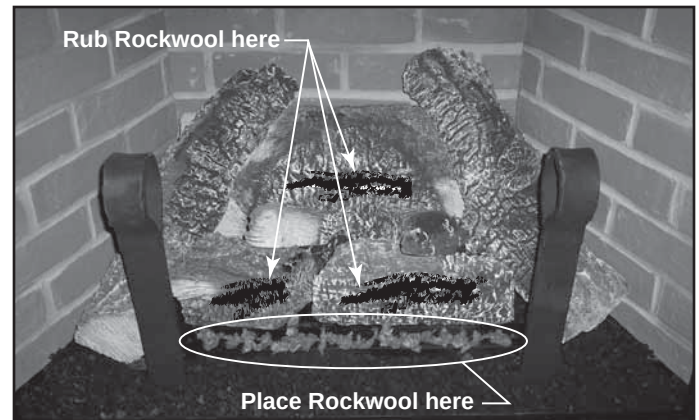

Figure 15.18 Place Rockwool
- Place lava rock as shown in Figure 15.18 to cover the front of the hearth pan and the front ridge of the burner pan.
- Place pieces of rockwool on the front of the burner pan in front of the logs. See Figure 15.18.